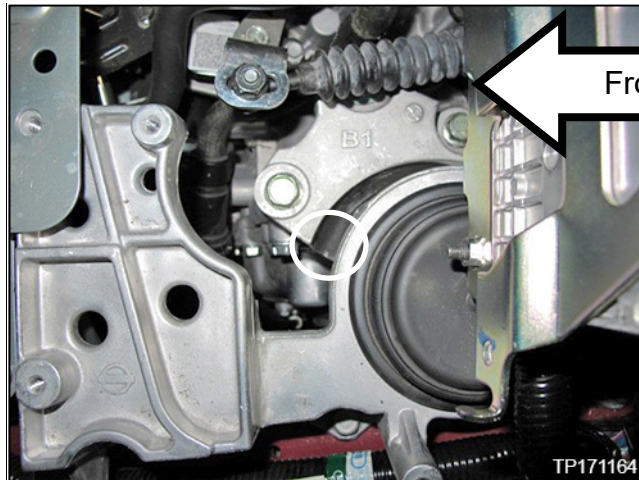

Figure 13
25. Locate the inspection areas on the engine mounting insulator (LH) as shown in Figures 13 and 14.